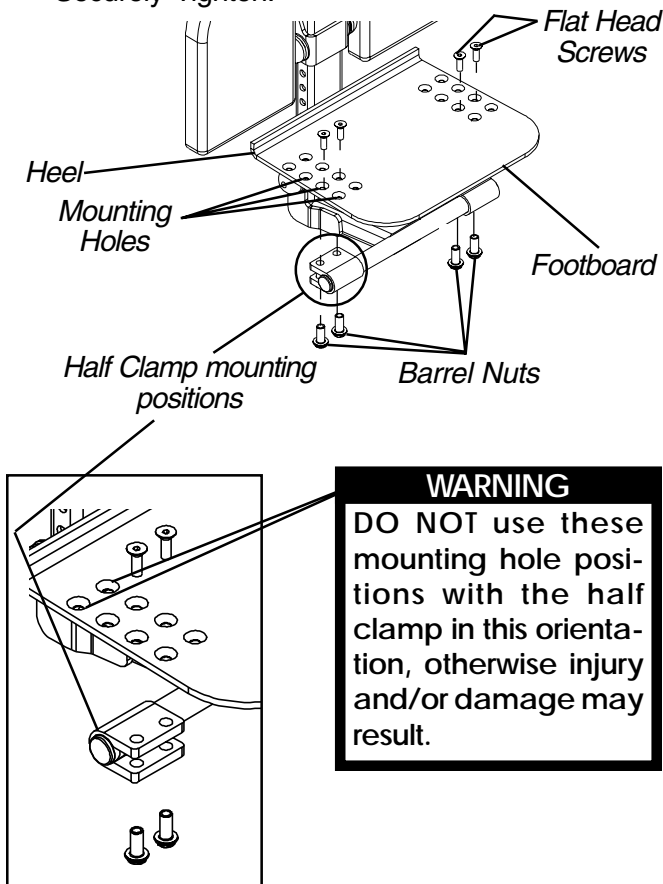

FIGURE 15 - ADJUSTING THE FOOTBOARD ANGLE/DEPTH
**Depth (FIGURE 15)**
1. Remove the four (4) flat head screws and barrel nuts that secure the footboard to the two (2) half clamps.
2. Position the footboard on the two (2) half clamps at the desired mounting position.
3. Install the four (4) flat head screws and barrel nuts through the footboard and two (2) half clamps. Securely Tighten.